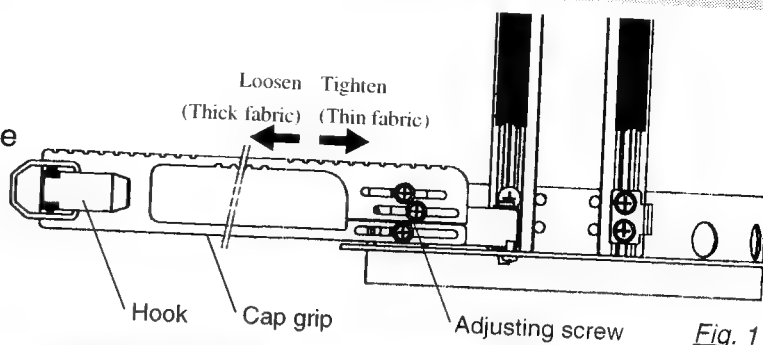

Fig. 1
1. Adjust the length of the cap grip to suit the thickness of the fabric. At this moment, hook should open and close without feeling heavy. (For the adjustment follow the next page "Hooping caps" item 1 to 5.) The adjustment to be done by three adjusting screws. (Fig. 1)